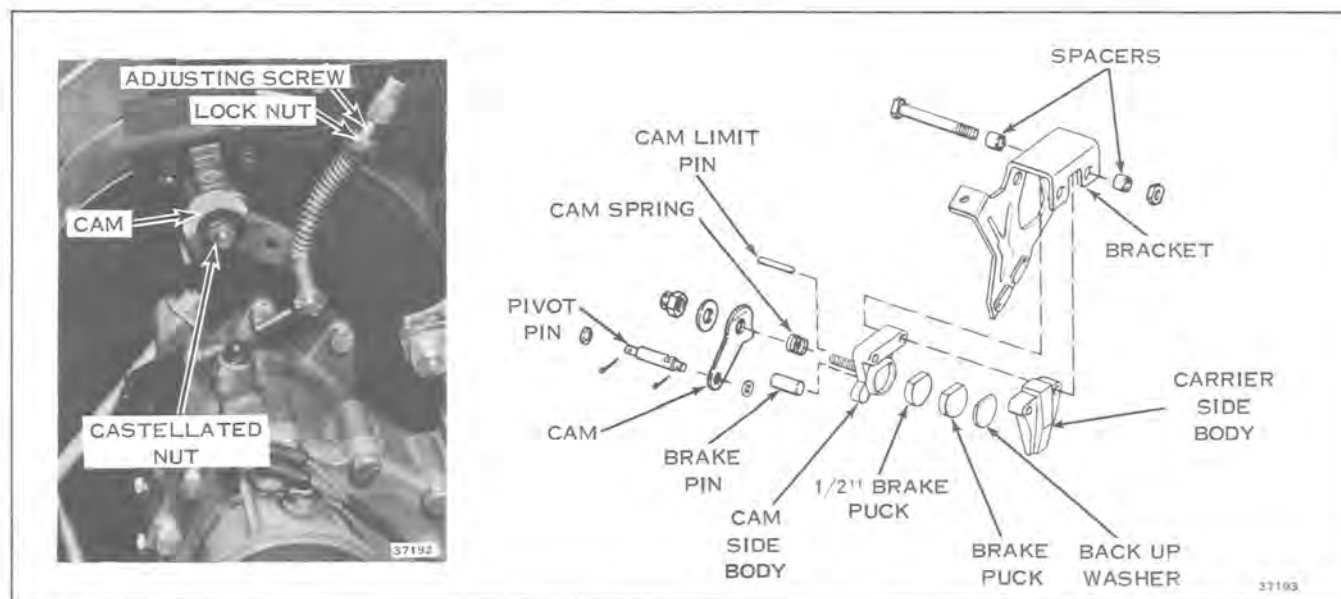

Figure 10-21
Brake adjustments can be made by turning the adjustment nut clockwise to tighten brake. Turn the nut until there is a slight drag on the brake, then back the nut off  $1/4$ " turn. See Figure 10-21.
Be certain there is proper movement of the brake lever control to permit use of the parking lock. Loosen control cable locknut and adjusting screw to obtain proper control lever movement. See Figure 10-21. Tighten locknut.
- a. Loosen brake adjustment screw lock nut. See Figure 10-21.
- Disassemble brake assembly as required, noting relative positions of components to assure correct reassembly (see Figure 10-21).